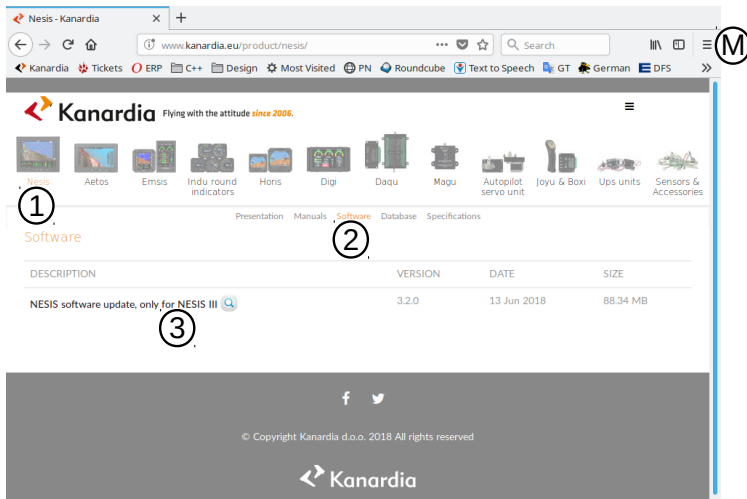

Figure 4.1: Illustration of the Nesis software download page. Usually only the latest update is available.
- ① Open the home page and select *Nesis* icon on the top. This leads to Nesis specific page.
- ② Select *Software* next. This opens a page with Nesis specific software. An example is shown in Figure 4.1.
- ③ Click on the link to start download process of selected software file.
1. Click on the \equiv menu symbol. See label (M) in Figure 4.1.